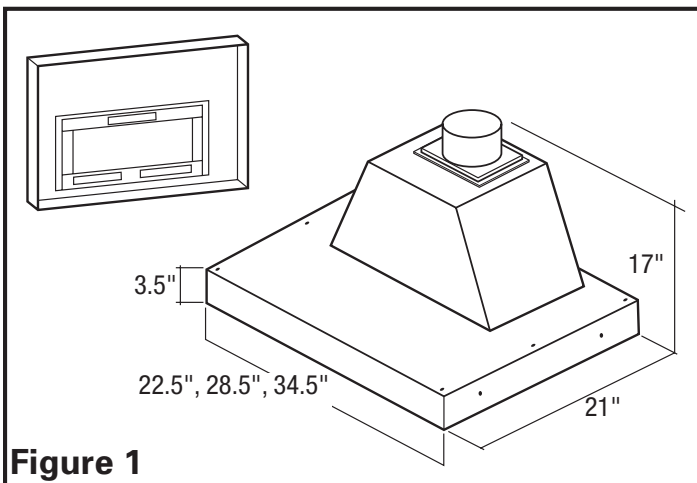

Figure 1
1. Using the dimensional drawing below, plan the mounting of your liner during the cabinet rough-in (**Figure 1**).